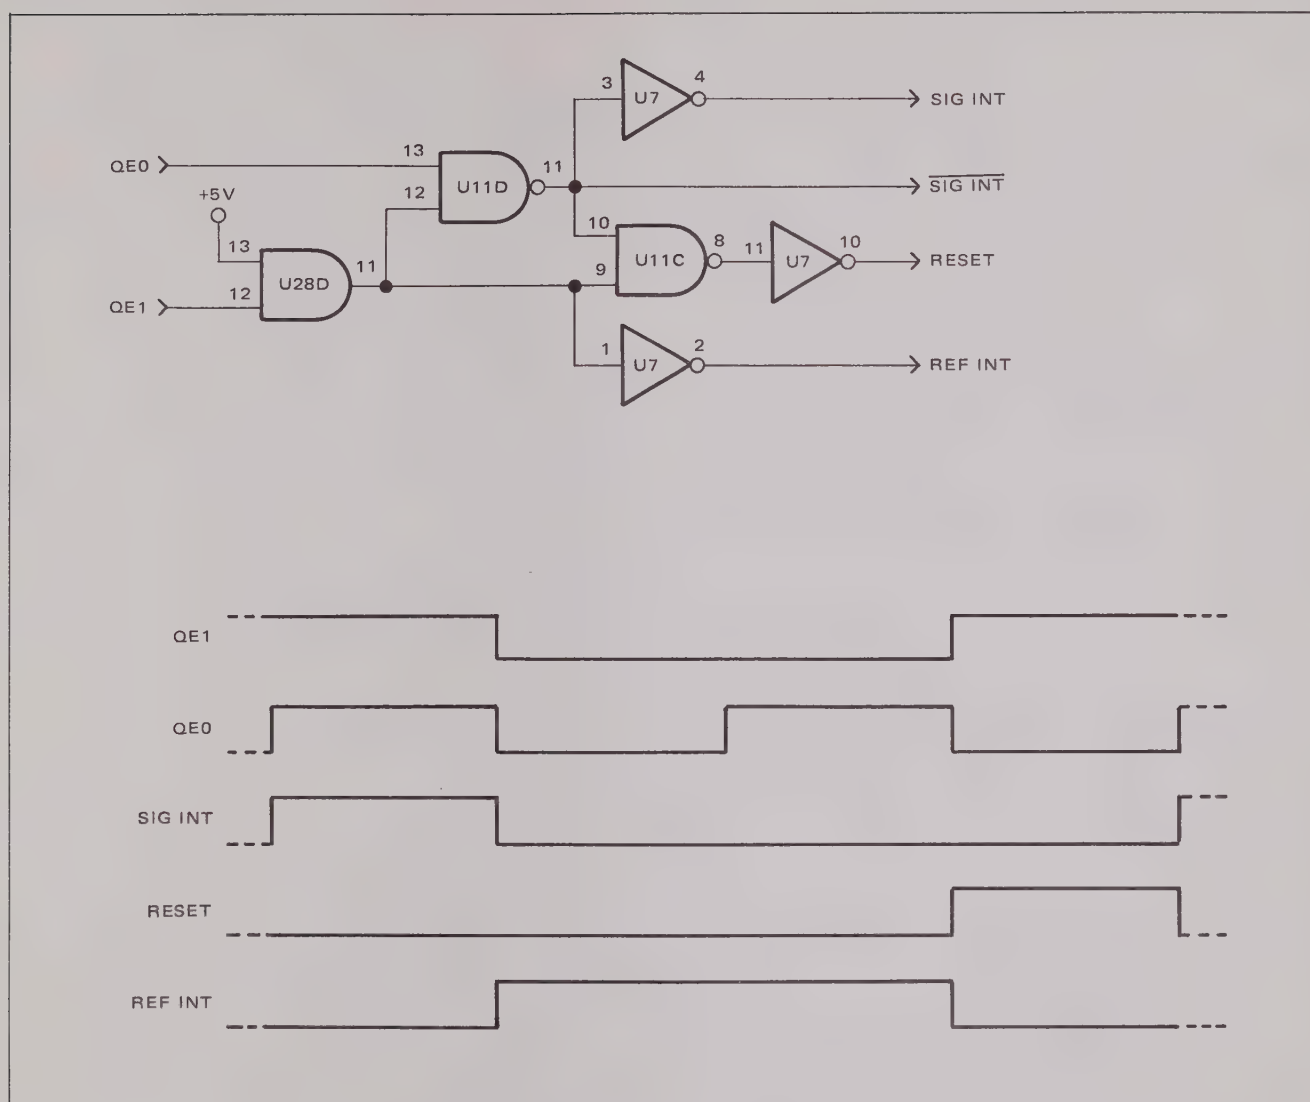

Figure 5.6 - Control Logic
5.25 Control Logic. This circuitry shown with timing in figure 5.6 decodes the QE0 and QE1 outputs of the 4-1/2 digit counter for use by other portions of the instrument. Failure of this circuitry would cause the instrument to lock up.